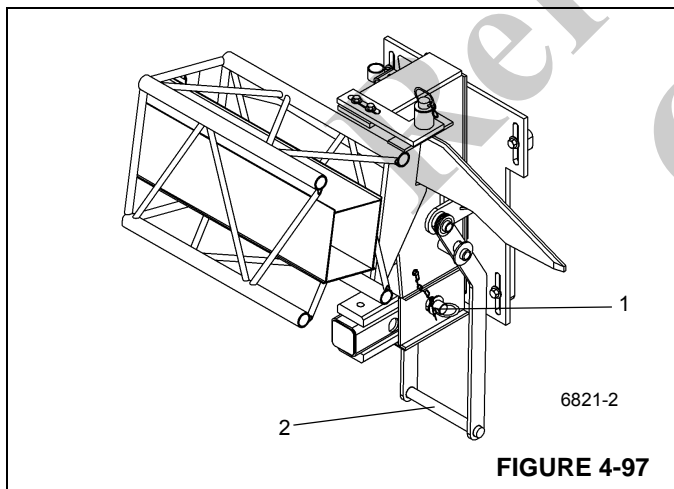

FIGURE 4-97
14. On the rear stowage bracket, remove the retainer pin (Figure 4-97, 1) securing the sliding support in the "OUT" position. Push in on the handle (Figure 4-97, 2) to push the swingaway against the rear of the boom
15. Disengage the swingaway anchor fittings from the boom nose attachment lugs. Install the retainer pin (Figure 4-97, 1) securing the sliding support in the "IN" position.